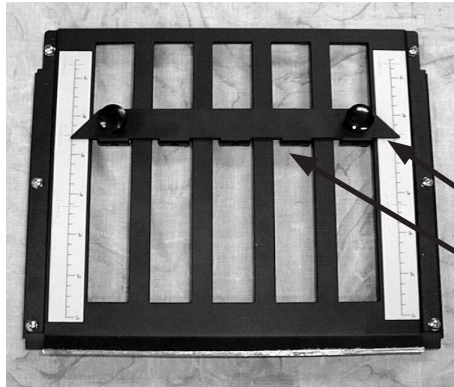

Figure 4a
1. Adjust fold plates to desired fold for length of paper (see fold plate adjustment on page 4). To do this, loosen the two thumbscrews (figure 4a & b) on each fold plate. Align center bar (figure 4a & b) so the marks on each side match up. For “V” folds, remove the lower fold plate, turn around 180° and reinstall.